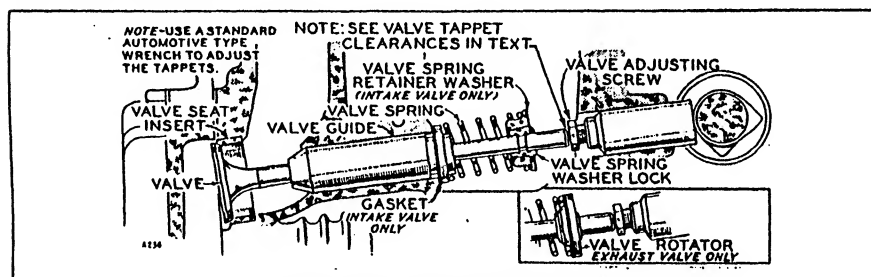

FIG.33- VALVE ASSEMBLY
**VALVE SERVICE.** - The cylinder heads must be removed from the plant whenever servicing the valves. When removing the cylinder heads, rap sharply with a soft hammer to loosen. Do not use a pry. Remove the valves, valve springs, retainer washers, rotocaps, and retainer washers. See Fig.33.